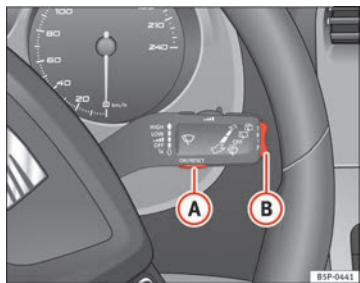
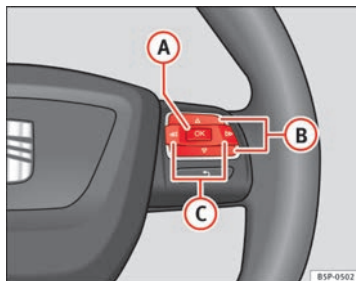

Fig. 45 Windscreen wiper lever: button A to confirm the menu selection and rocker switch B to change the menu
Fig. 46 Steering wheel controls: button A to confirm the menu selection and switch B to change the menu
- To access the “Configuration” menu, press button **C** ⇒ fig. 46 until the menu is displayed. Now you are in this menu.
- To change from one memory to another, briefly press button **A** ⇒ fig. 45 ⇒ page 68 on the windscreen wiper lever or the **OK** button on the multifunction steering wheel ⇒ fig. 46 ⇒ page 68 while the ignition is switched on. ▶
The following data can be viewed on the multifunction display using the rocker switch **(B)** ⇒ fig. 45 ⇒ page 68 on the windscreen wiper lever or by pressing button **(Δ)** or **(▽)** ⇒ fig. 46 on the multifunction steering wheel*.